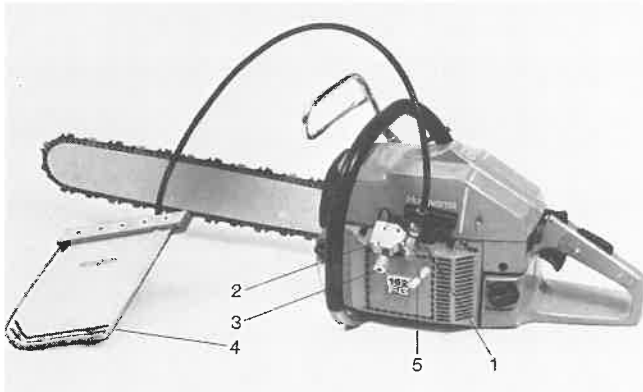

Fig 12:1
The felling cushion is connected to the combustion chamber of the engine via a hose, attached with a snap coupling (1) to the control valve (2). See fig 12:1.